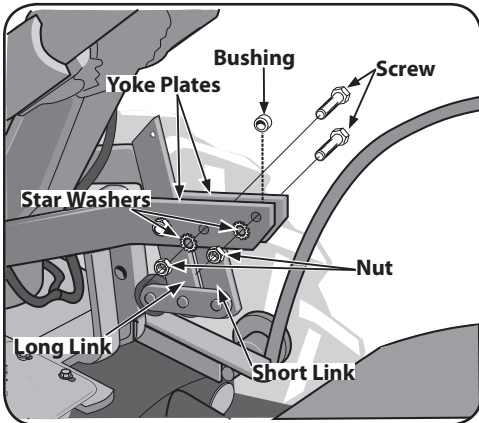

Figure 3-6
2. Remove both sets of nuts, star washers, screws and one bushing from the yoke plates. See Figure 3-6. There is a bushing inside the short link. Be careful not to lose it when removing screw.